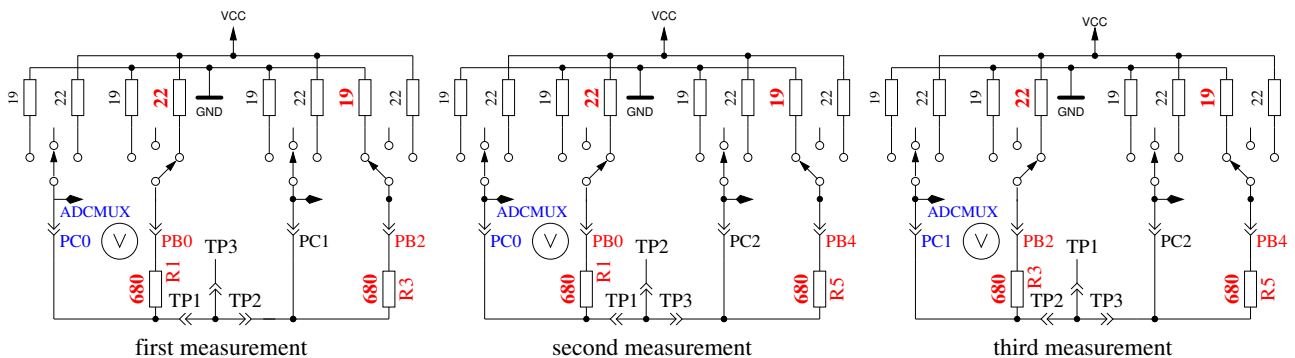

Figure 5.44: Comparison of 680Ω resistors
- Comparing of the 680Ω resistors.** In row 1 the cryptic text “+RL- 12 13 23” is shown. Meaning of this is as follows: The RL is the short form of Resistor Low meaning the 680Ω resistors. The 12 stand for: resistor at pin 1 is connected to VCC (+) and resistor at pin 2 is connected to GND (-). The result of this measurement is displayed in row 2 at the first place as difference to the theoretical value. In row 1 follows now a “13” which means, that the first connection of measurement 1 is still connected with 680Ω to VCC but that the resistor of pin 3 is connected to GND. The result is displayed in the middle place of row 2 as difference to the theoretical value. The last measurement of this test “23.” means that now the resistor at pin 2 is connected to VCC (+) and the resistor of pin 3 is connected to GND. The result of measurement is displayed at the last place of LCR row 2 as difference to the theoretical value. Please remember, that the resolution of the ADC is about 4.88mV! The measurement situation is also shown in figure 5.44. The theoretical value with respect to the internal resistance of the pins should be: $\frac{5001 \cdot (19+680)}{(19+680+680+22)} = 2493$.